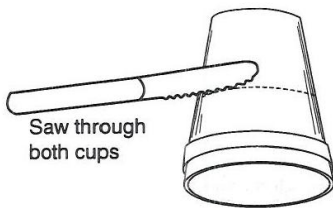

Figure 6. Two styrofoam cups being cut together
2. Nest (or 'stack') the two cups together and cut through both cups where indicated in the diagram by the dashed line - about halfway up, as shown in Figure 6. The diagram shows a knife but this can also be done with scissors. Note: keep cups together while cutting.